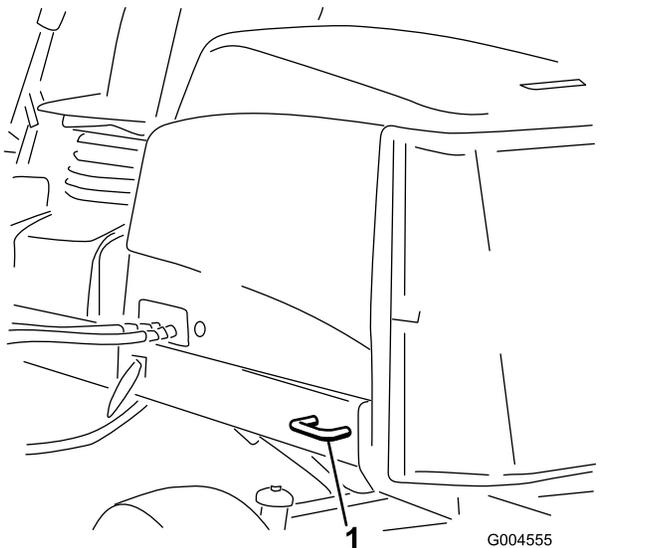

Figure 44
- Rear—each side of the machine on the rear frame (Figure 44).